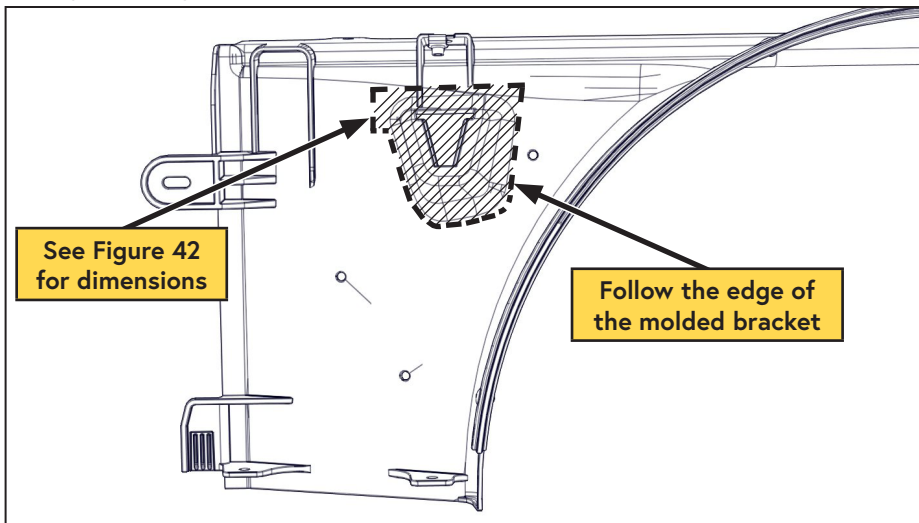

**Figure 40 — Fan shroud modification**
- Cut a rectangle out of the soft rubber section on the back of the fan shroud (Figure 40).